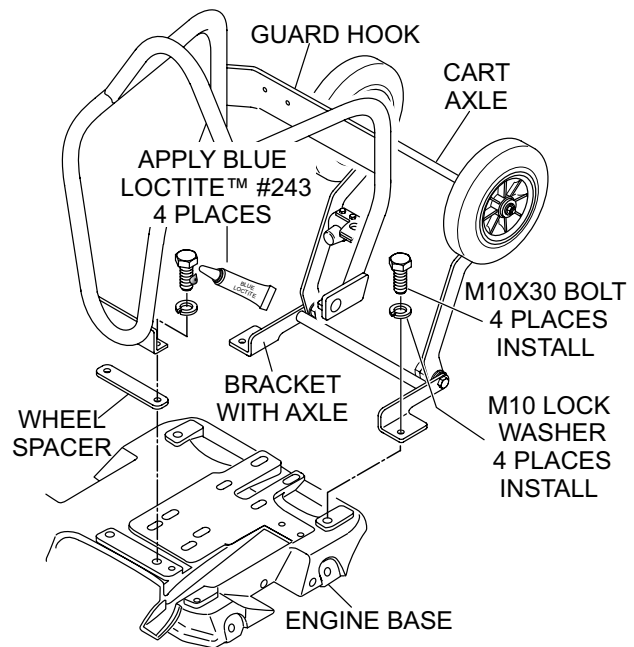

Figure 3. Wheel Spacer/Bracket Installation
1. Place wheel spacer (item 10) onto engine base. Reference Figure 3.
2. Next, place wheel bracket (item 30) onto engine base,
4. Using a 17 mm socket, secure wheel spacer to engine base using the two supplied M10X30 bolts (item 28) and M10 lock washers (item 29). Apply Blue Loctite™ #243 to bolt threads. Torque bolts to 54.2~57.9 ft·lbf (750~800 Kgf·cm).